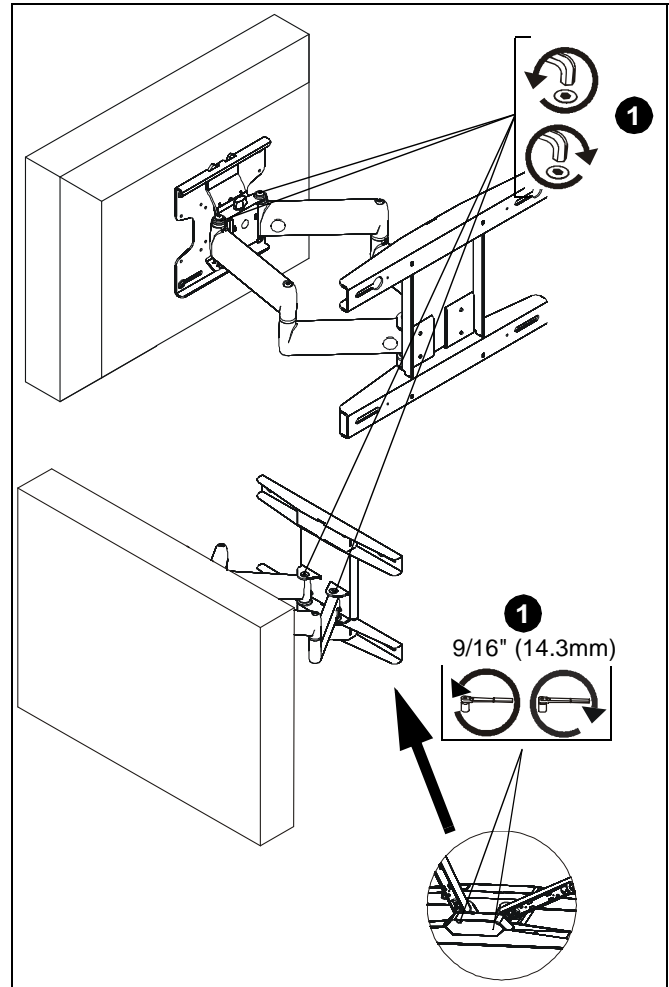

Figure 14
1. Using hex keys (I, J), loosen or tighten adjustment screws as required to achieve desired tension. (See Figure 14)